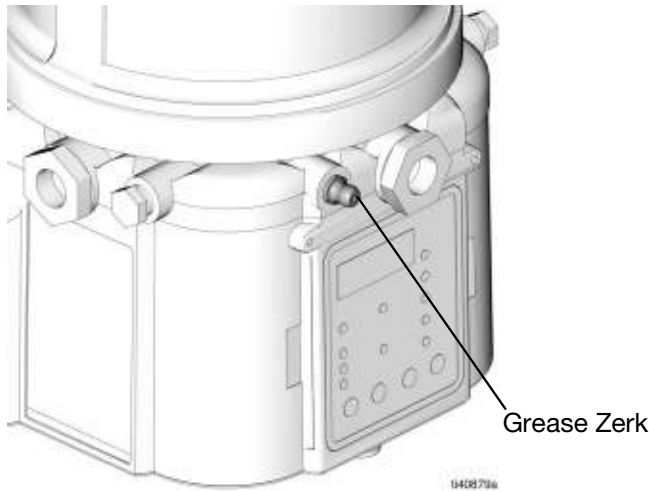

FIG. 36
- Fill the pump with grease through the grease zerk (FIG. 36).